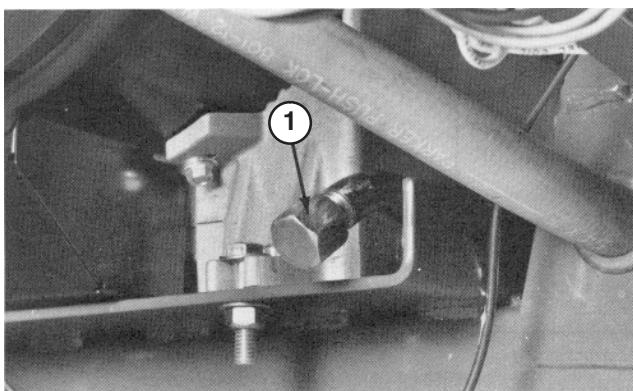

Figure 20
3. Place an oil drain pan below the drain cap on the bottom of the crankcase (Fig. 20). Clean the area around the drain cap.